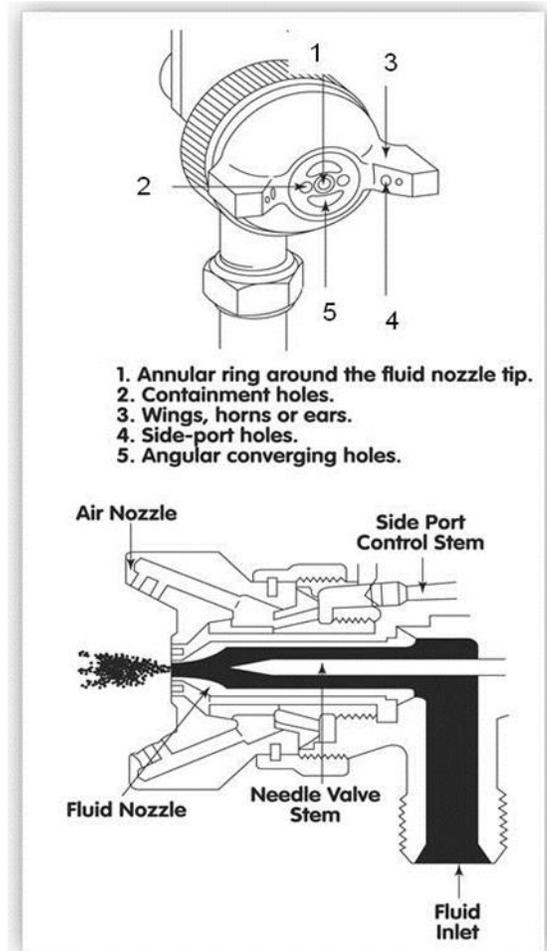

Figure 3-10. External spray gun atomizes gel coat in three stages.
B. **External**—Air and gel coat meet outside of the gun head or nozzle. This is the most common system. The gel coat is atomized or broken up into a fine spray in three stages (Figure 3-10).
- **First Stage Atomization**—As the fluid being sprayed leaves the orifice of the nozzle, the fluid stream is immediately surrounded by an envelope of pressurized air emitted from the annular ring (Figure 3-10- #1) around the fluid nozzle tip. The resulting turbulence mixes or coarsely atomizes the fluid with the air.
- **Second Stage Atomization**—Immediately after the first stage atomization, the fluid stream is intersected by jets of air from converging holes (Figure 3-10- #5) on each side of the annular ring. Two straight holes indexed 90 degrees are containment holes which keep the stream from spreading. The turbulence occurring at the intersecting point of the material stream and air jets results in a finer atomization.
- **Third Stage Atomization**—The angular projections on the nozzle (often called ‘wings,’ ‘ears,’ or ‘horns’) contain passageways for the air jets. These jets intersect the stream just after second stage atomization, and at 90 degrees to the two sets of converging holes (Figure 3-10, #4). The primary purpose of these jets is to form or shape the round cross section of the fluid stream into an elongated one referred to as ‘fan’ shaped. Additional turbulence occurs at this point, resulting in additional atomization. The spray pattern size is determined by the design of the air nozzle, the fan control, the method of feeding the spray gun, and the cohesive nature of the material being sprayed.